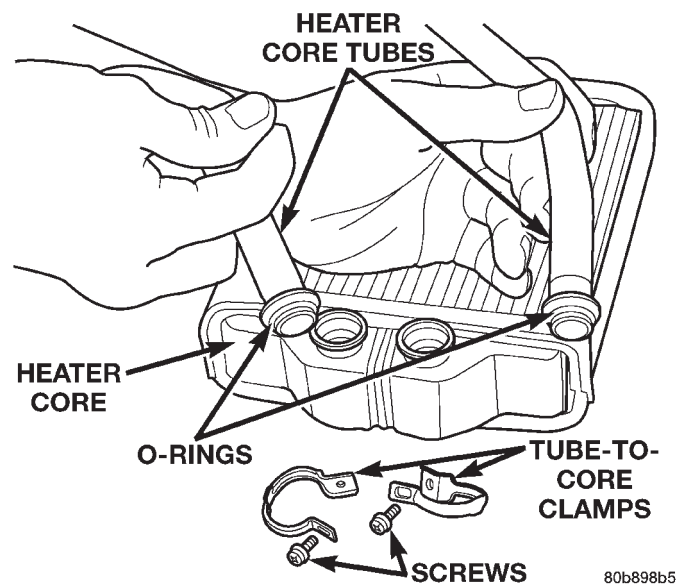

Fig. 56 Heater Core, Tubes, O-rings
(1) When installing individual tubes, insert tube into core ensuring that tube O-ring is seated in core and not pinched. Hold tube in seated position while installing the round tube-to-core clamp (Fig. 56).